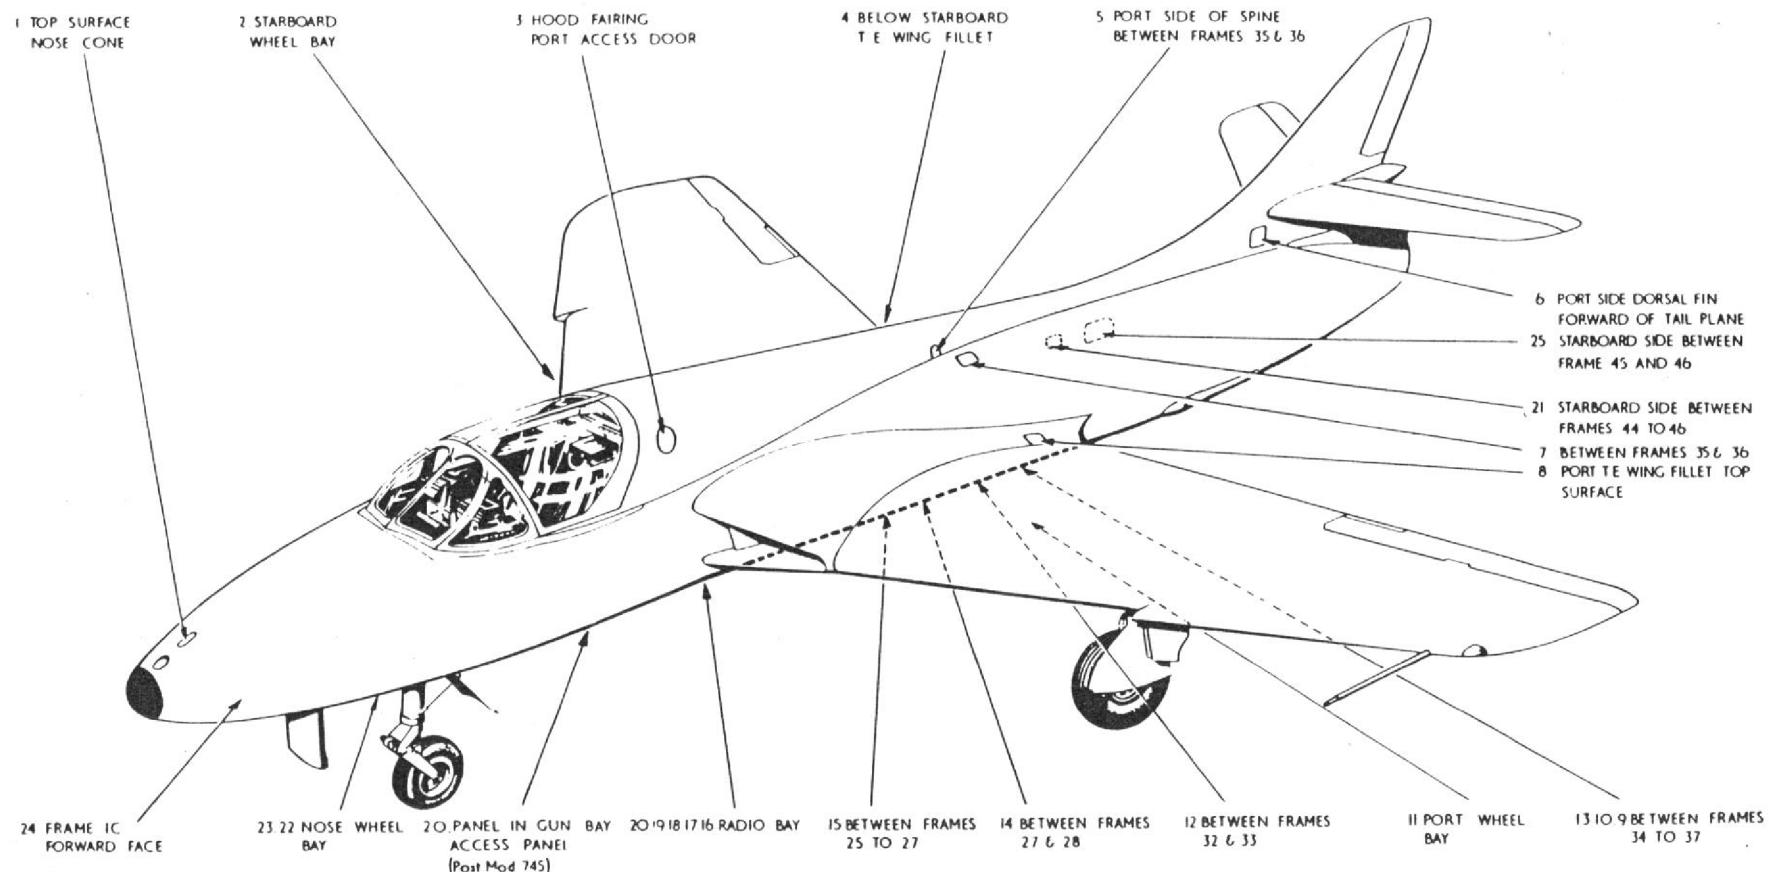

Fig.2 Servicing points
1. This chapter describes the replenishing of the various systems and certain servicing operations which may be found necessary during the preparation of the aircraft for flight, the location of the various servicing points being given in fig. 2. When the necessary operations are completed a check must always be made to ensure that all tools have been removed and that all panels and access doors lie flush with the surrounding surfaces and are securely fastened. The position of the access doors and the removable panels is shown in Sect. 2, Chap. 4. The operations described in the following paragraphs are grouped for convenience under their various systems and do not, therefore, constitute the order in which the operations are to be carried out.
2. The aircraft is refuelled under pressure through a 1½in. standard coupling in the port wheel bay (fig. 2, item 11). High pressure refuellers, capable of refuelling at a rate of 150 gallons per minute at a pressure of 45–50 lb. per sq. in., should be used, but if these are not available, existing refuellers may be used with an adapter hose.
(1) Ensure that the defuelling cock (fig. 2, item 15) accessible via the engine starter access door, in the bottom of the fuselage, is turned OFF and locked (para. 4(8)).
4. The aircraft is defuelled through the refuelling coupling in the port wheelbay, being either sucked out by a refueller or pumped out by the tank booster pumps. An air pressure supply is required to transfer the fuel from the centre, wing and drop tanks to the front tanks during this operation. The air pressure, which must not exceed 120 lbf/in² is fed into the system through an external supply connection in the spine of the centre fuselage (fig. 2, item 5). The procedure for defuelling the aircraft is as follows:—
- (5) Remove the locking pin from the lever of the defuelling cock, disengage the hinged locking plate from the lever and ▲ turn the cock (fig. 2, item 15) to ON. ▶
- (6) Start the refueller pump to draw out fuel.
- (7) As soon as the refueller commences to suck air, switch on the booster pumps to ensure that all fuel in the system is drained off. Switch off the booster pumps as soon as the refueller commences to suck air again and stop the refueller pump. Disconnect the external power supply or set the battery master switch to OFF. Set the engine master switch to OFF. ▲
- (8) Turn the defuelling cock to OFF, move ▶ the hinged locking plate to engage with the lever of the cock and lock in position with the locking pin.
5. Drainage of water and sediment that may have accumulated in the fuel system is facilitated by the provision of small drain valves located at the lowest points in the fuel system, together with a small plug in the engine filter casing. The position of these valves is indicated in fig.2, items 14 and 16. These valves and drain plug
6. Access to the filler cap of the hydraulic reservoir is obtained by removing an access panel from the top surface of port wing filler (fig. 2, item 8). The filler cap is provided with a sight glass to facilitate the checking of the fluid level in the reservoir.
7. The high pressure air bottles for the emergency operation of the alighting gear and landing flaps and the anti-G air bottles are mounted at the rear of the cabin. It is essential to ensure that these bottles are fully charged before each flight. Pressure gauges are installed in the cabin to register the pressure in the bottles; should the indicated pressure be below that given in the Leading Particulars, the bottles must be recharged to the correct pressure through the in situ charging valve (fig. 2, item 19).
8. Access to the hydraulic accumulators for the wheel brakes, together with their charging connection is from within the nose wheel bay. The pressure is indicated on the brake accumulator pressure gauge in the cabin. If after dissipating the hydraulic pressure, by operating the brake lever a number of times, the pressure shown on the gauge is below that stipulated in the Leading Particulars, the accumulators must be recharged through the charging connection (fig. 2, item 23).
9. The hydraulic accumulator for the aileron boosters, together with its charging connection and associated pressure gauge, is accessible from within the starboard wheel bay. The hydraulic pressure should be dissipated by operating the aileron controls until the hydro-booster jacks cease to operate. The air pressure should then be checked and if the pressure shown on the gauge is below that stipulated in the Leading Particulars the accumulator must be recharged through the adjacent charging connection (fig. 2, item 2).
10. Access to the hydraulic accumulator for the elevator booster together with its charging connection, may be obtained by removing an access panel (fig. 2, item 6) in the port side of the dorsal fin, just forward of the tail plane. The access panel is provided with a window to enable the accumulator pressure to be checked by reference to a pressure gauge located adjacent to the accumulator. On completion of recharging operations the valve cap must be replaced, tightened and the outer sleeve of the cap wire-locked to the hexagon of the valve body.
12. Access to the charging valve for the oxygen cylinders can be obtained after removing a panel at the rear of the gun bay access panel (post Mod. 745) or the radio access door (pre Mod. 745) (fig. 2, item 20) on the underside of the fuselage. The cylinders must be recharged in situ to the pressure quoted in the Leading Particulars. The procedure for in situ charging is described in the relative equipment publication.
13. The main and standby batteries are carried in the radio bay in the front fuselage, access being obtained via the radio access doors (fig. 2, item 18). These batteries must be checked periodically for state of charge as described in Sect. 5, Chap. 1, which also contains instructions for the changing of the batteries.
15. An access door in the top port side of the centre fuselage (fig.2, item 7), between frames 35 and 36 gives access to the cold air unit dipstick and filler orifice. The oil level in the unit should be examined daily and topped-up as necessary with oil as specified in the Leading Particulars until it reaches the full mark on the dipstick. The oil should be poured through the dipstick orifice in small quantities, otherwise a false level will be indicated on the dipstick.
16. The filler cap for the engine oil sump is accessible through an access panel situated in the starboard side of the fuselage, just below the wing trailing edge fillet (fig.2, item 4). The sump has a capacity of 16 pints and the oil level should be checked with the aircraft on level ground and with the engine cold. The level is indicated by a graduated sight glass window in the sump wall. Only oil as specified in the Leading Particulars must be used. Before replacing the filler cap ensure that the sealing washer in the filler neck is clean and undamaged and when replacing the cap, ensure that the self-locking wing nut is tightened down securely.
17. The accessories gearbox is mounted in the bottom of the engine bay just aft of the rear spar on the port side of the aircraft and an access panel (fig.2, item 12) in the underside of the centre fuselage is used to gain access to the filler neck and dipstick. Before checking the level of the oil ensure that the dipstick is pressed fully home before removing. If the oil level, as indicated on the dipstick, is low, the gearbox must be re-
18. The fuel filter de-icing tank is located between frames 44 and 45 on the starboard side of the rear fuselage. The replenishment couplings and contents indicator are mounted adjacent to the tank (fig.2, items 21 and 25). The tank is replenished as follows:—